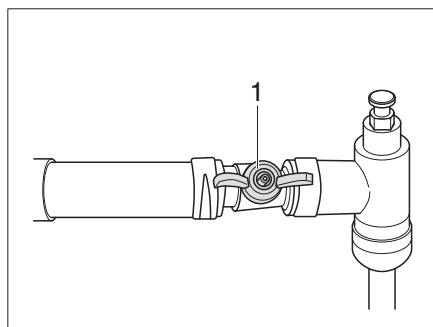

Fig. 247 Alde stopcock, opened
- Set the stopcock (Fig. 247,1) diagonally to the pipe.
- Set the stopcock (Fig. 247,1) parallel to the pipe.